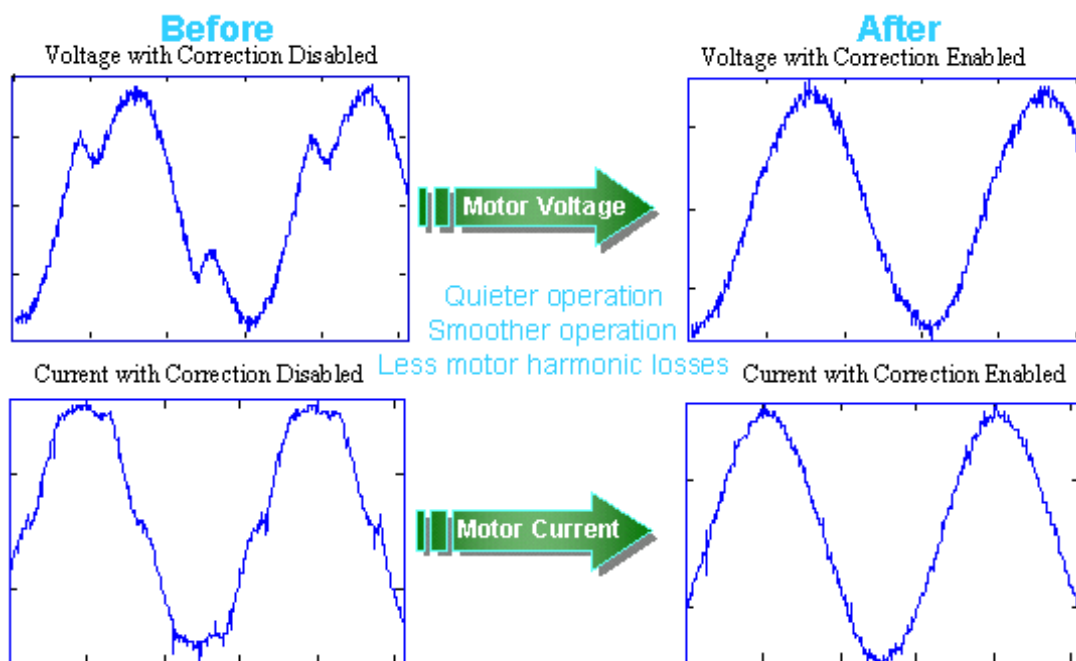

**Figure 1-12. Actual Waveforms Taken on a 1/2 Horsepower Motor**
**Figure 1-12** shows the effect of using the PWM module's waveform distortion correction feature. In certain operating conditions, the results can be significant. The corrected waveform results in smoother, quieter, and more efficient motor operation.